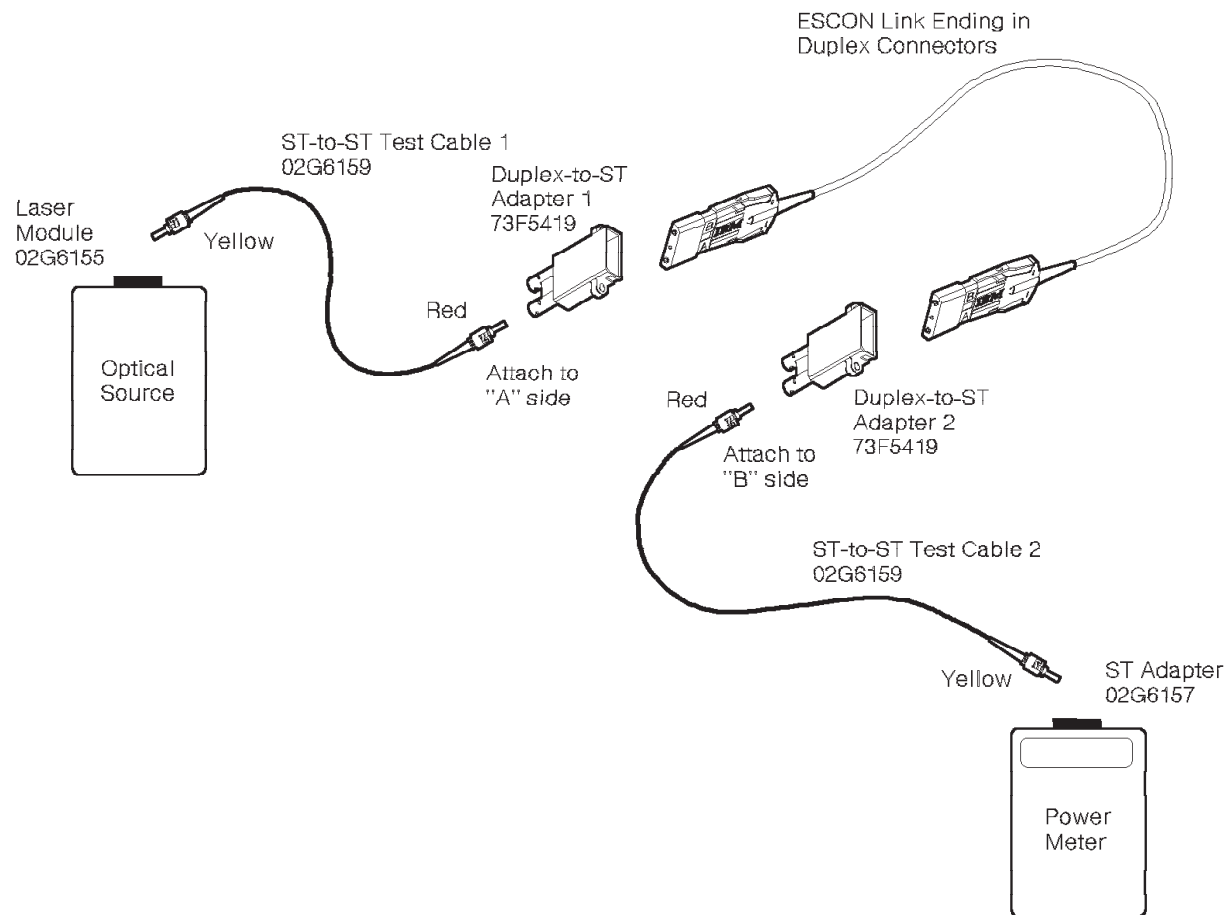

Figure 3-18. Connecting the Test Equipment to a Single-Mode Link
6. Attach the test equipment to the link as follows (see Figure 3-18 on page 3-39):